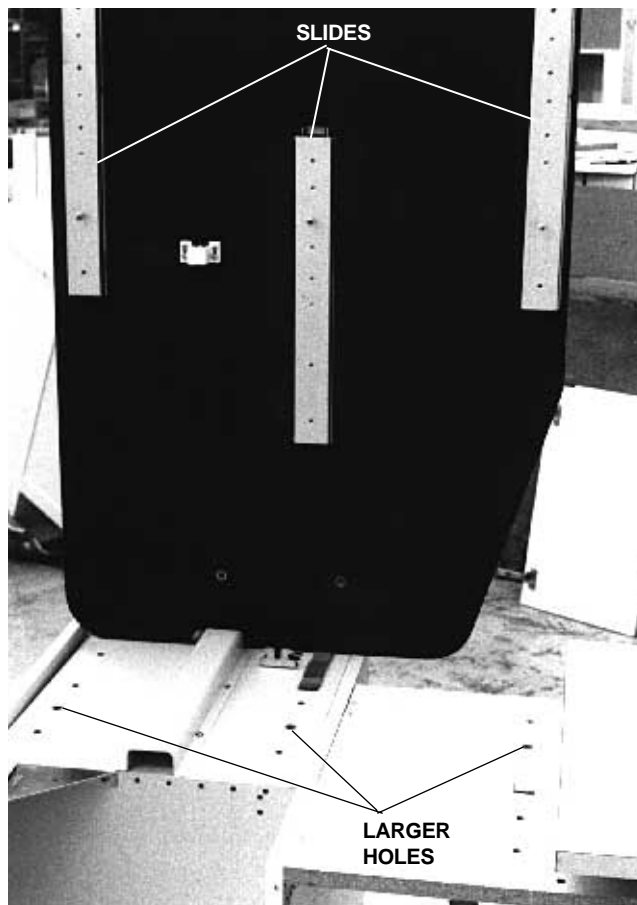

FIGURE 4
- While holding the middle slide forward, position the countertop as shown in Figure 4. Now lower the countertop, then push backwards until the locating screws drop into the larger holes in the lower module. Be sure the magnet is behind the striker (see Figure 4).